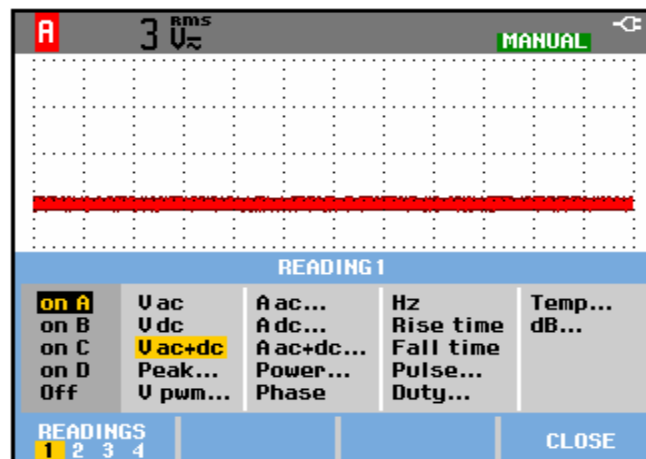

Figure 4-1. Menu item selection
- Open a menu, for example press **SCOPE**, then press **F2** (**READING ...**). The menu as showed in Figure 4-1 will be opened.